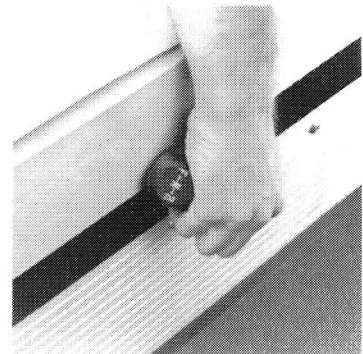

Figure 3
Forward-Reverse Control - The forward-reverse shift lever is located below and to the right of the driver's knee on the seat support panel (See Figure 3). The lever has three (3) distinct positions: F (forward), N (neutral), and R (reverse). Rotate the lever toward the driver (F) to run vehicle in forward and toward the passenger (R) to run vehicle in reverse. When the lever is in the straight up or neutral position, the vehicle will not run, and the engine will stop if shifted to this position while running. The Carryall-I Electric and Tourall Electric operate at half speed in reverse.